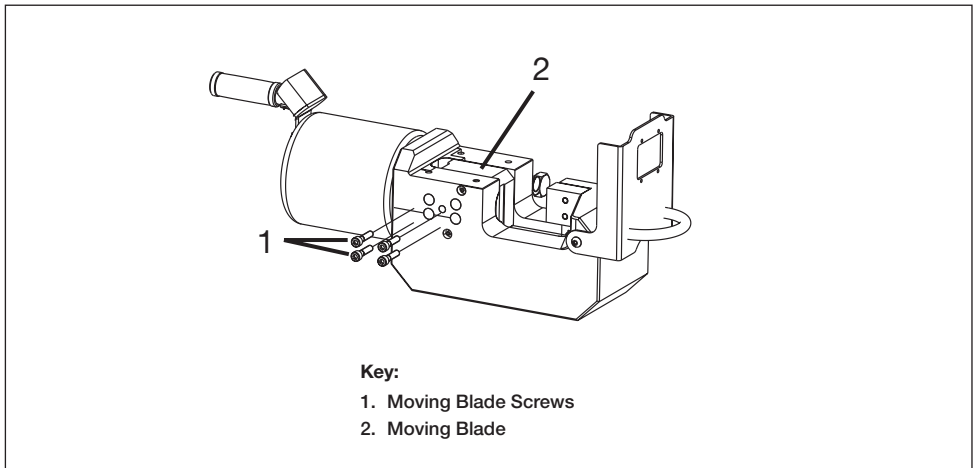

Figure 16, Moving Blade Replacement (View 1 of 2)
6. Loosen and remove the four moving blade screws (Fig. 16, item 1) from the side of the cutter.
16. Install the four moving blade screws (Fig. 16, item 1). Torque to 37 ft-lb [50 Nm].